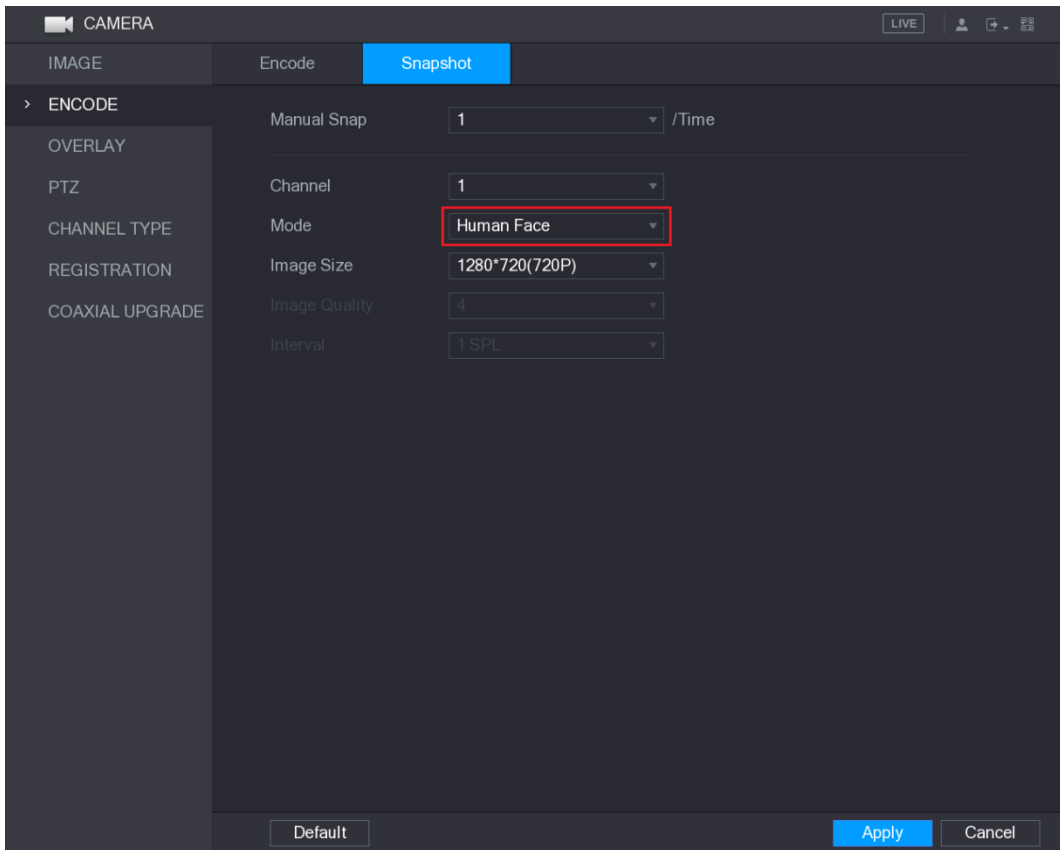

Figure 5-90
Step 2 In the **Mode** list, select **Human Face**, and then configure other parameters. See Figure 5-90.